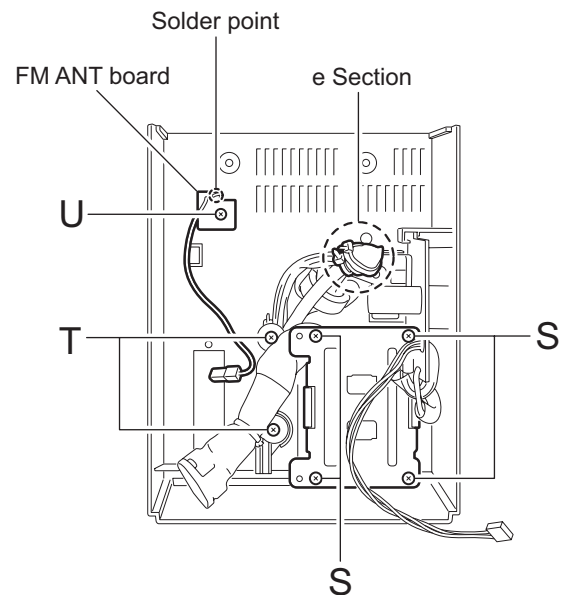

Fig.19
3.1.10 Removing the FM-antenna board (See Fig.19)